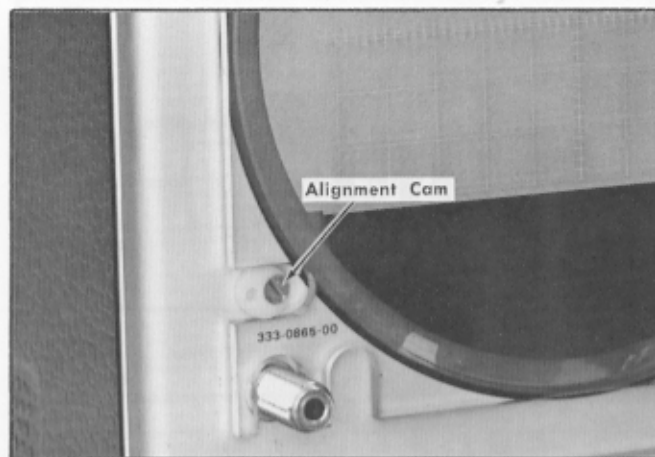

Fig. 4-7. CRT graticule alignment.
8. Install the CRT graticule and align the storage screen split to the center line of the graticule by rotating the CRT and adjusting the vertical position of the graticule by rotating the nylon cam (see Fig. 4-7).